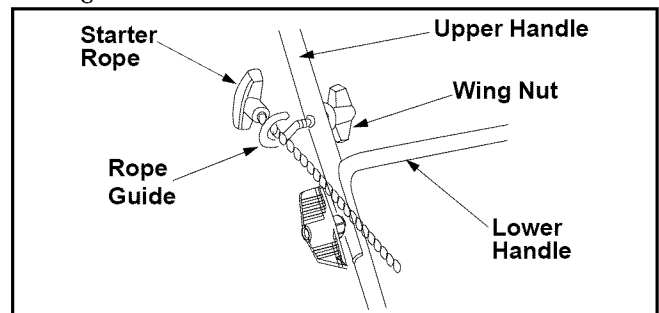

Figure 5
- If not there already, move rope guide to the first hole above the lower handle on right side. The wing nut loosens and secures the rope guide. See Figure 5.